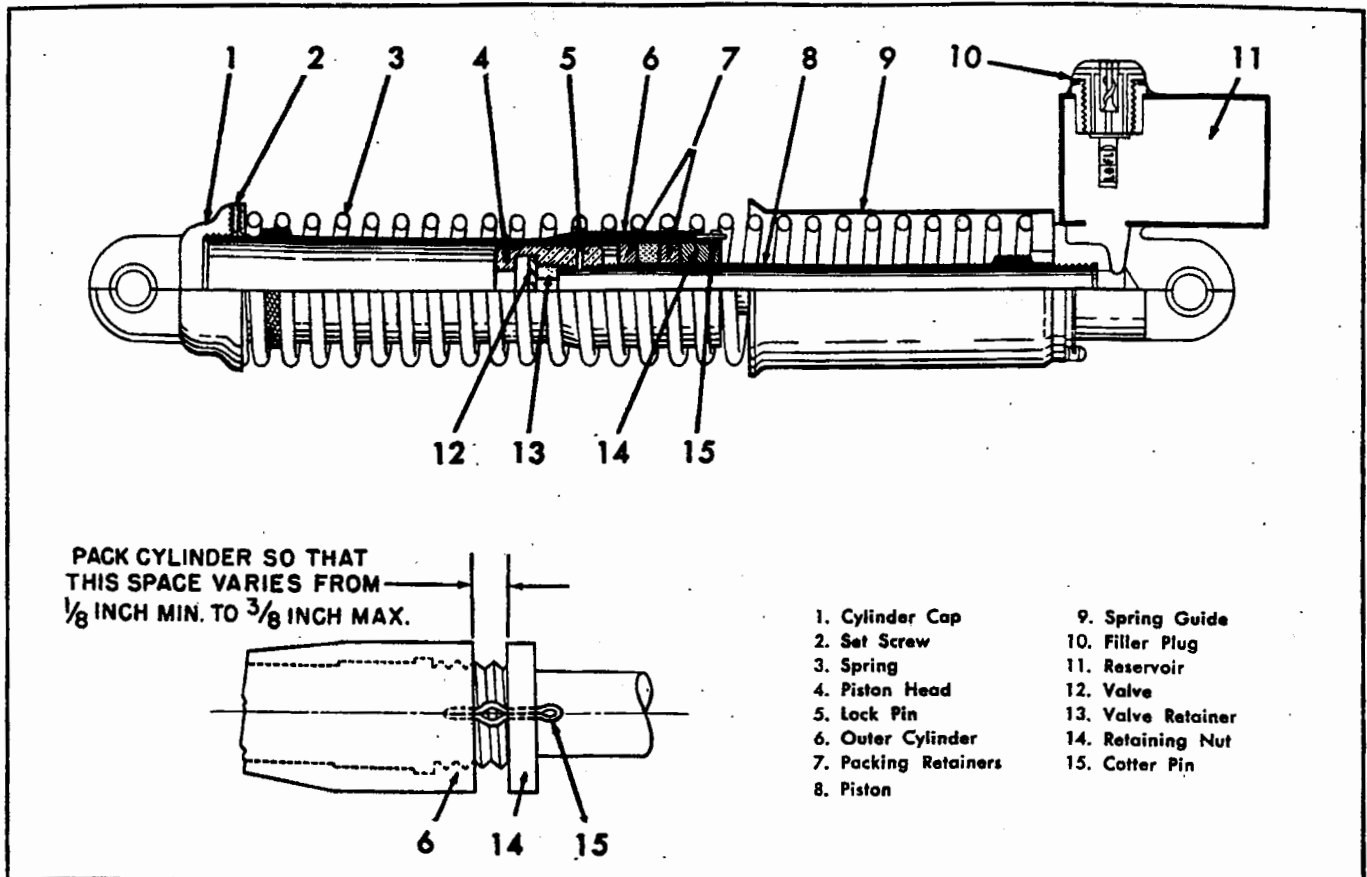

Figure 4-53. Arresting Hook Dashpot.
4-390. DESCRIPTION. (See figure 4-53.) The spring-loaded dashpot consists of two telescoping oil-filled cylinders within a preloaded spring, and hydraulic fluid reservoir. The spring aids in gravity actuated extension of arresting hook, and keeps hook in contact with carrier deck during landings. The function of the dashpot is to dampen out "bouncing" of hook, which it accomplishes by means of a combined flapper valve and metering orifice at lower end of inner cylinder. The flapper valve permits relatively rapid flow of oil when dashpot is extending (i.e., when hook is traveling downward), but forces the oil through a central 3/32 inch orifice when the dashpot is being compressed. The flow to and from the attached reservoir is unrestricted. The reser-
4-392. DISASSEMBLY. (See figure 4-53.)
b. Special attention should be paid to packing outer cylinder. Sufficient packing should be inserted so that after inserting upper retaining ring and tightening retaining nut (14), a clearance of from 1/8 inch to 3/16 inch remains between end of outer cylinder (6) and inside face of nut (14). (Refer to figure 4-53.) A cotter pin (15) inserted through nut and cylinder is spread in this gap so as to lock nut and itself in place.
4-396. FILLING PROCEDURE. (See figure 4-53.) The small reservoir on dashpot requires frequent filling in accordance with decal on side of reservoir. The following procedure gives additional information.